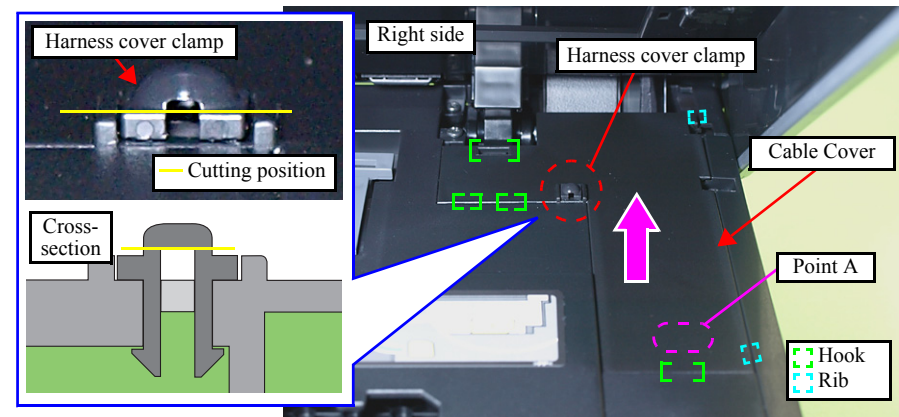

Figure 8-3. Removing the Cable Cover
2. Cut the harness cover clamp with a nipper as shown in Fig. 8-3 and remove the harness cover clamp.
- When installing the Cable Cover, secure it with a new Harness Cover Clamp. (See Fig. 8-3.)